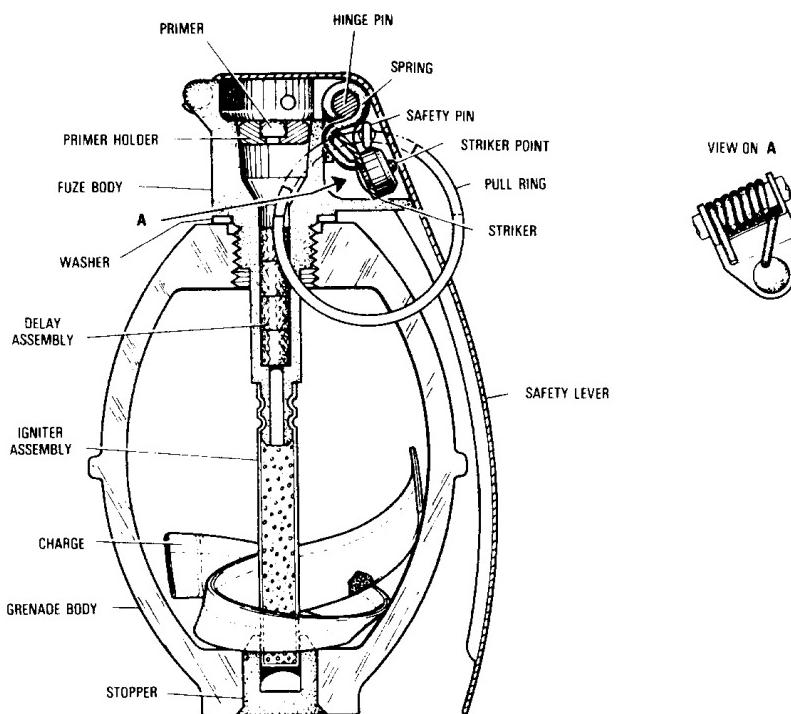

Figure 2-6      Mechanism of the M62 Grenade (Safety Clip Removed)
1. The complete M62 Grenade is issued in its separate component parts. The parts consist of the following as shown in Figure 2-6:
- c. Safety Clip. Similar in operation to that of the M61 Grenade (not shown in Figure 2-6).
1. When the safety clip and pin are removed and the safety lever released, the striker spring forces the striker to rotate on its axis. This pushes the safety lever upward and away from the grenade, and allows the striker to activate the primer. See Figure 2-6.